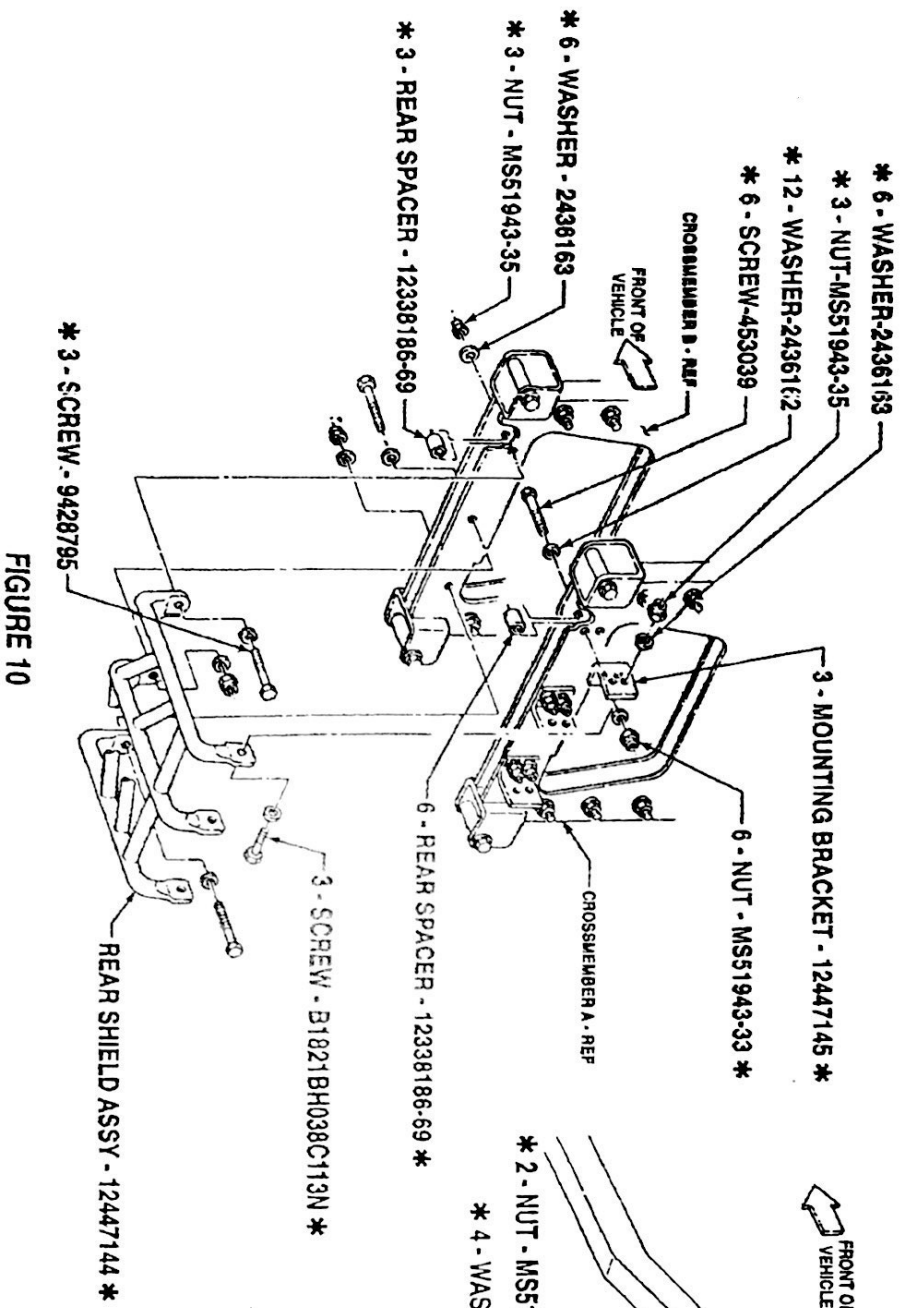

FIGURE 10
- POSITION REAR SHIELD ASSEMBLY TO CROSSMEMBER B AND SECURE WITH THREE 9428795 SCREWS, SIX 2436163 WASHERS, THREE 12338186-69 REAR SPACERS, AND MS51943-35 NUTS AS SHOWN IN FIGURE 10. DO NOT TIGHTEN SCREWS.